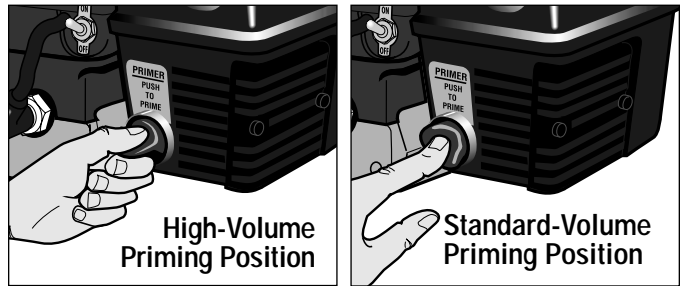

Figure 6: Fuel primer bulb.
Use this priming method to start a new engine for the first time, or after running out of gas, or after extended storage. Use thumb and forefinger to squeeze the side of the primer bulb that is in line with the light colored rib on the primer body, as shown in Figure 6 (High-Volume Priming Position). Squeeze the primer bulb six (6) times. This process removes air from the priming system. As fuel enters the priming system, the priming action will feel more firm.
Use this priming method to start the engine after it has been sitting or has been in brief storage, and has fuel in the tank. Use the Standard-Volume Priming Position (Figure 6) and push in top of primer bulb two (2) times for above 55°F, or three (3) times if below 55°F.